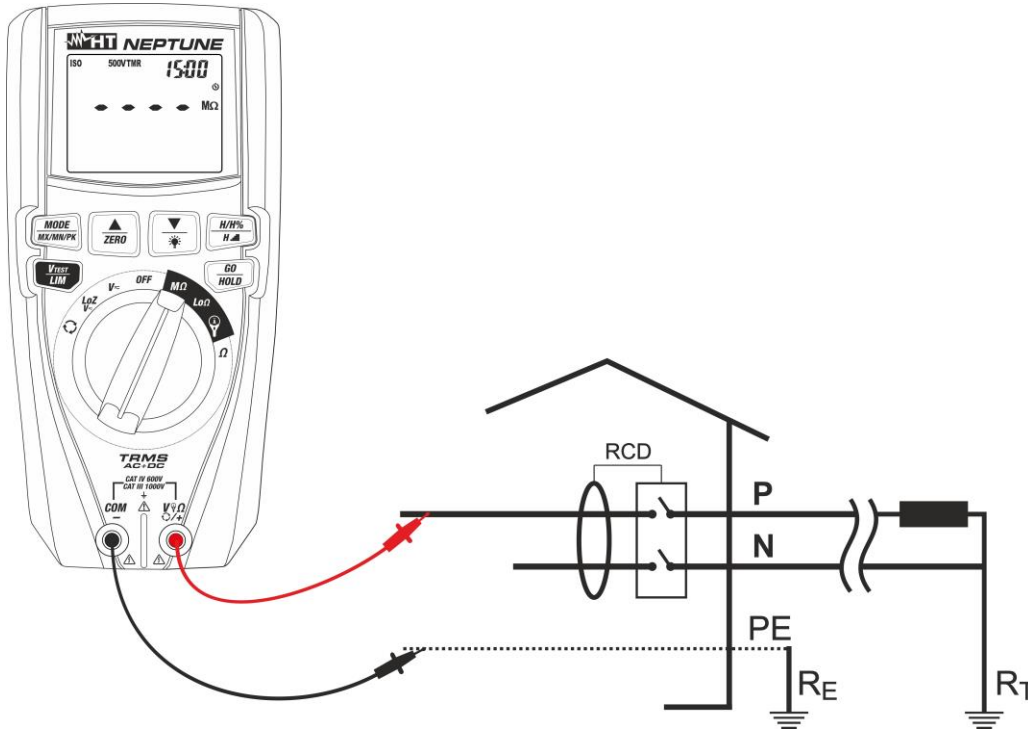

Fig. 19: Use of the instrument for insulation resistance measurement in TMR mode
6. Insert the red lead into input terminal  $V\Omega\text{}/+$  and the black lead into input terminal **COM**– and possible alligator clips, and connect the instrument to the system to be tested (see Fig. 19).